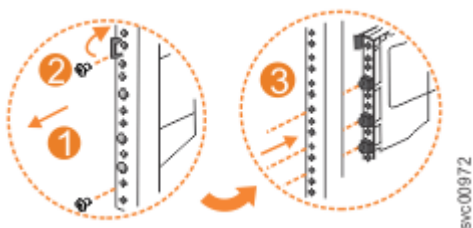

Figure 135. Remove the rail assembly from the front frame bracket
1. Remove the two screws that attach the outer rail section to the front bracket assembly, as shown in Figure 135 on page 172.
2. Remove the rail section by pulling it away from the front bracket, as shown in Figure 135 on page 172.